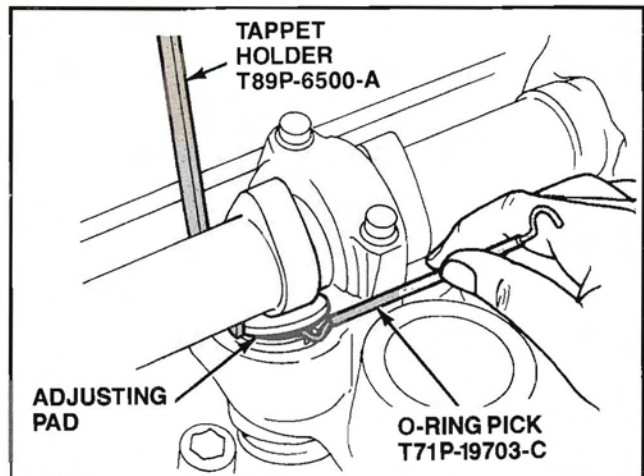

Figure 142. Removing Adjusting Pad
- Using O-ring pick T71P-19703-C, or equivalent, pry the adjusting pad out of the valve lifter (Fig. 142).